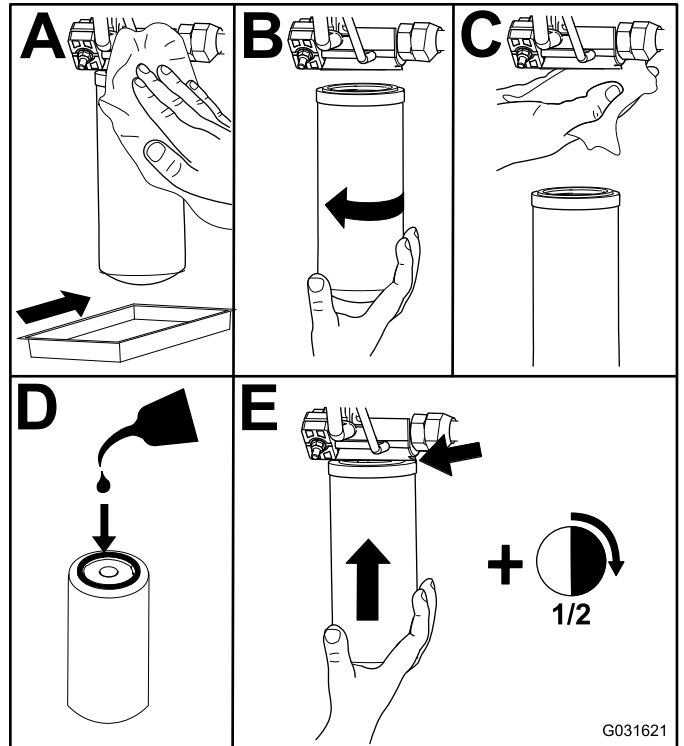

Figure 96
2. Replace the charge hydraulic filter at the hydraulic lift compartment as shown in Figure 96.
4. Replace the return filter at the right side of the machine (Figure 96).